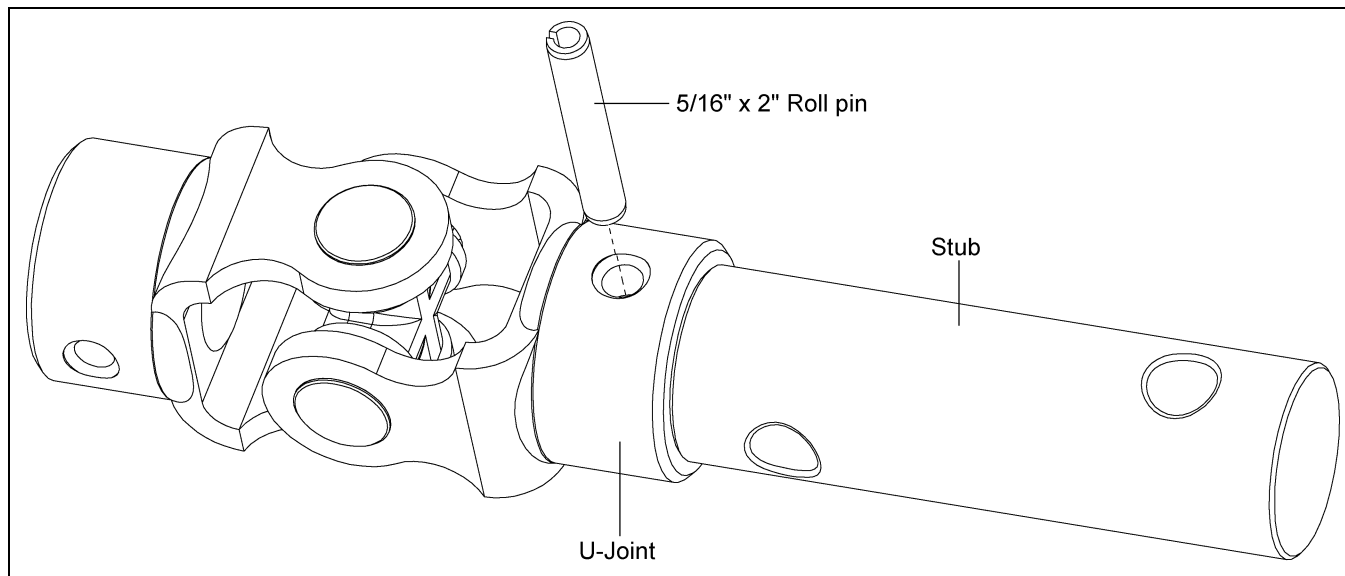

Figure 4Y
- b. Secure the U-joint using a 5/16" x 2" roll pin. Drive the pin in with a hammer. *(See Figure 4Y.)*